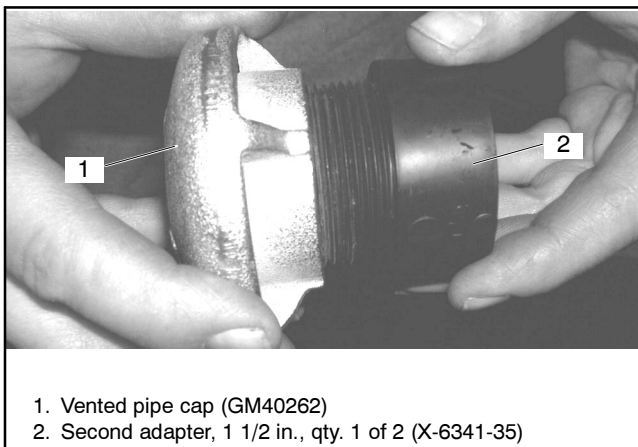

Figure 23 Assemble Vented Pipe Cap and Adapter
2.3.5 Attach vented pipe cap GM40262 to second 1 1/2 in. adapter X-6341-35. See Figure 23.